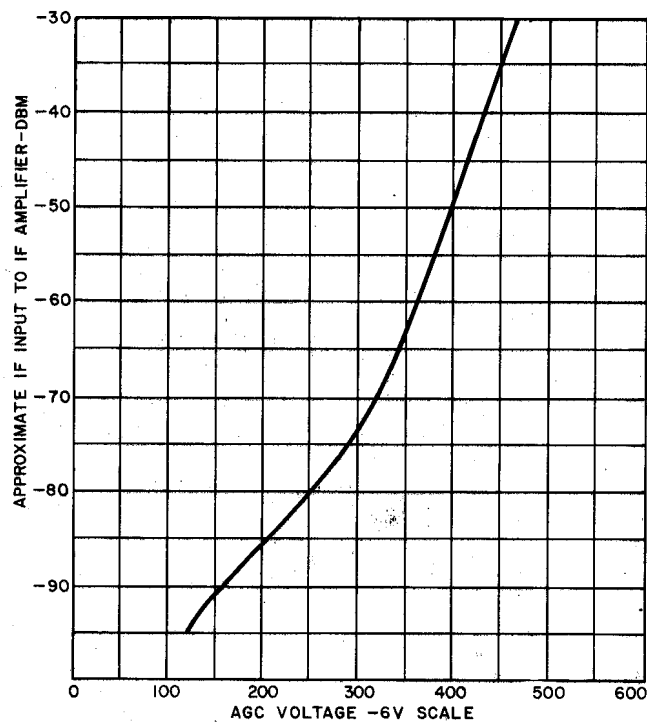

Fig. 2—Typical TL-1 Receiver AGC Characteristics
- 6 To determine that the transmission on the channel which will carry the service is stable and that no fading is apparent, set the selector switch to AGC. Then, reference to Fig. 2, 3, 4, or 5 will indicate the approximate received signal level based on the automatic gain control indication obtained for the channel being measured.